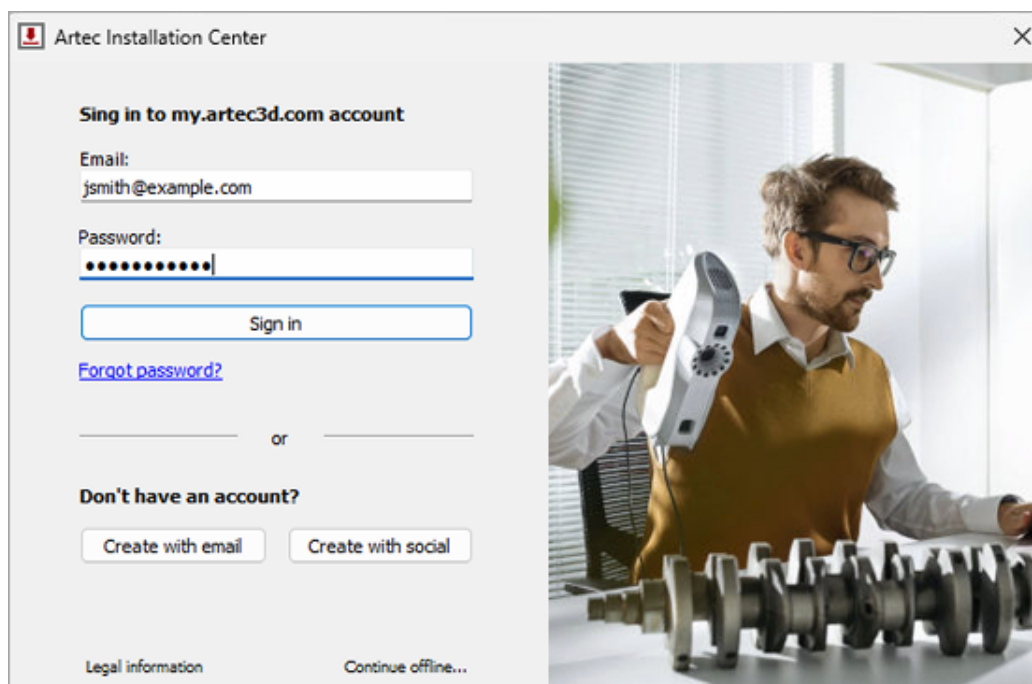

Figure 2: Authentication for Artec Installation Center
2. After downloading, open the folder containing the executable file and run it. Follow the on-screen installation instructions. Once Artec Installation Center is installed, you will see a dialog requesting your email address and password. Use your my.artec3d account to log in as Figure 2 shows.